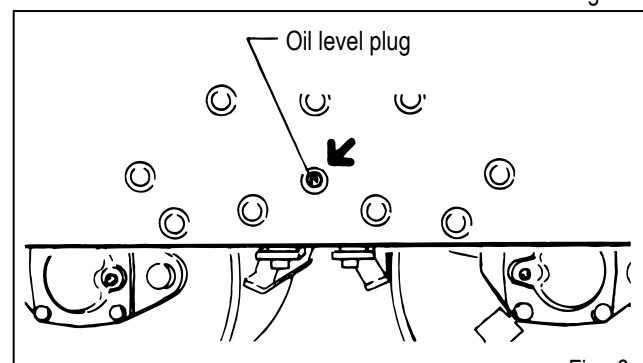

Fig. 6
- Check vibrator casing for any oil leakage. If any leakage is noticed, check the oil level with level plug removed off the side plate. (Fig.6)